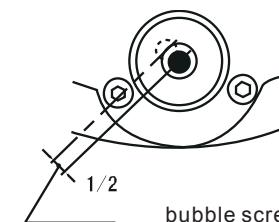

Fig.11
(II) Using wrench adjust bubble screws to move the bubble to centre. (Fig.11)